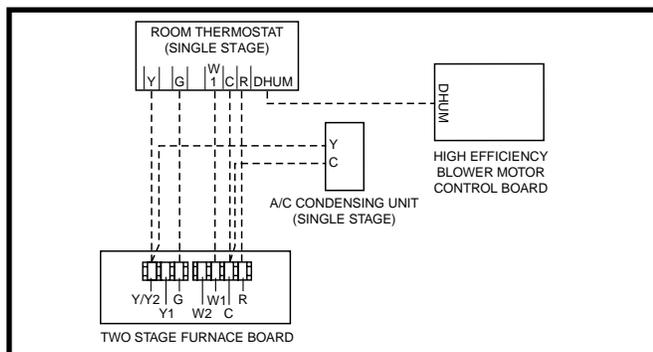

Figure 15. Wiring Configuration 1
- Connect the thermostat's **W** output to the furnace control boards **W1** terminal. This allows the furnace to always run in low output mode. See Figure 15.
The Autostaging feature included make it possible to use a single stage thermostat and still receive some of the benefits of 2-stage furnace operation. If Autostage is enabled, the furnace will drop to **LOW** fire after initially starting in **HIGH** fire. After a period of 10 minutes, the furnace will then stage up to **HIGH** fire, until the heating load is met. See Figure 15 and the Thermostat / Low Voltage Connection section.
- ✓ Verify that all needed thermostat wires are securely connected to the correct leads on the terminal strip of the circuit board. See Figures 15 - 17 (page 21).